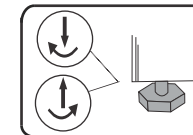

Fig. 1
Step 4 : Rotate the two front levelers, provided below your refrigerator, clockwise to raise the front and anticlockwise to lower it (refer Fig 1). The front should be slightly above the rear so that the door shuts gently when left open.